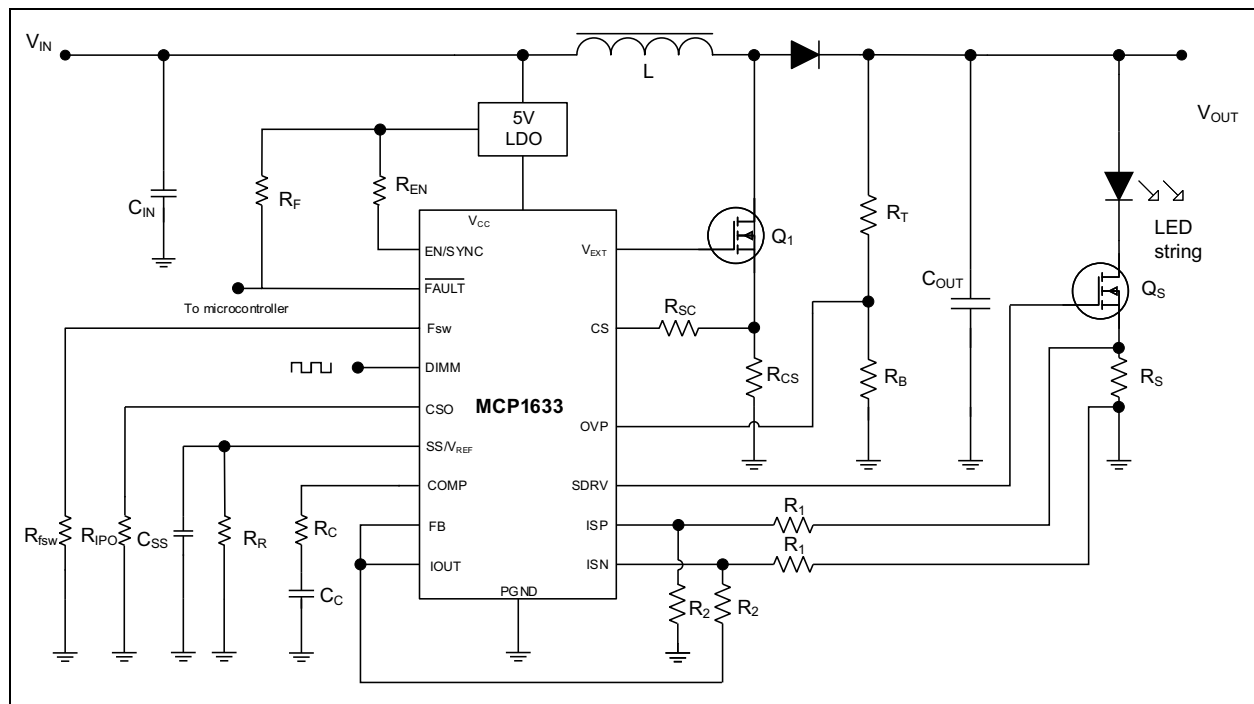
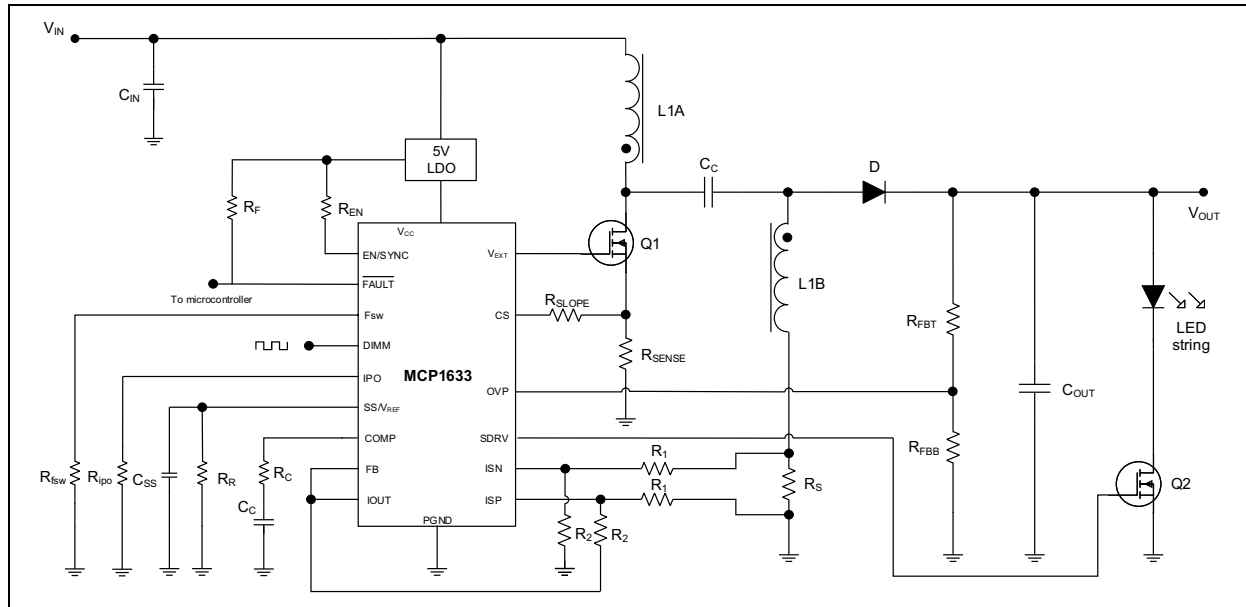
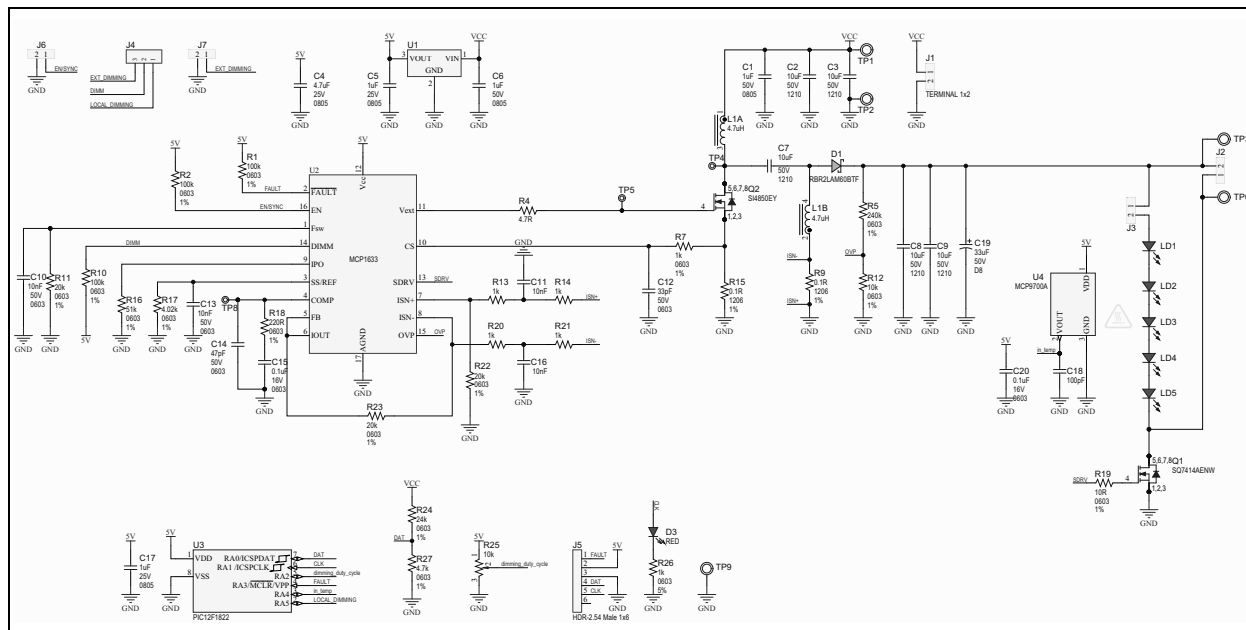

FIGURE 5-1: MCP1633 Typical Boost Converter.
FIGURE 5-2: MCP1633 Typical SEPIC Converter — Demo Board ADM01002.
FIGURE 5-3: MCP1633 SEPIC LED Driver Schematic — Demo Board ADM01002.
Figure 5-1 depicts the typical boost converter controlled by the MCP1633. If the converter must operate with input voltages higher than 5.5V, a linear voltage regulator can be used to bias the MCP1633 controller. The Peak Current Mode control used in this case will ensure consistent performance over a wide range of operating conditions. The MOSFET is protected against overcurrent by internally limiting the maximum voltage at the output of the error amplifier of the controller. If the voltage applied on the CS pin exceeds the set threshold, the MCP1633 device will reduce the duty cycle in order to prevent overcurrent in MOSFET.
The single-ended primary inductor converter (SEPIC) used to drive an LED string is presented in Figure 5-2. This converter offers buck-boost functionality and is protected against the output short circuit. The inductors can share the same magnetic core (coupled inductors); in this case, the mutual inductance doubles the value of the inductor, reducing the ripple of the current.
- Updated Figure 5-1, Figure 5-2 and Figure 5-3 in Section 5.0, Application Circuits.